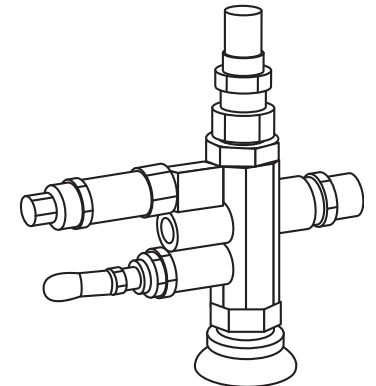

Figure 6 - Manual Lever Unloaded Position
4. Turn manual unloader lever up to a horizontal position to allow the compressor pump to run without compressing air. (See Figure 6).